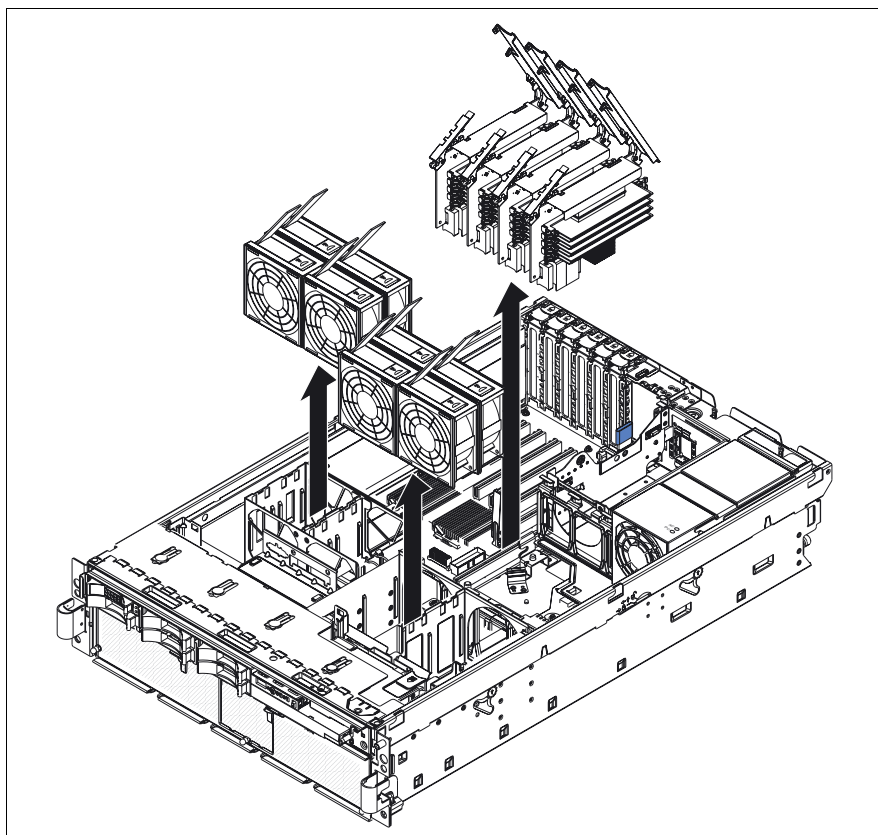

Figure 13: Removing fans and memory cards (server front shown without bezel)
- ▶ Remove all fans and memory cards from the server (see figure 13).
To remove the microprocessor tray, proceed as follows (see figure 13):